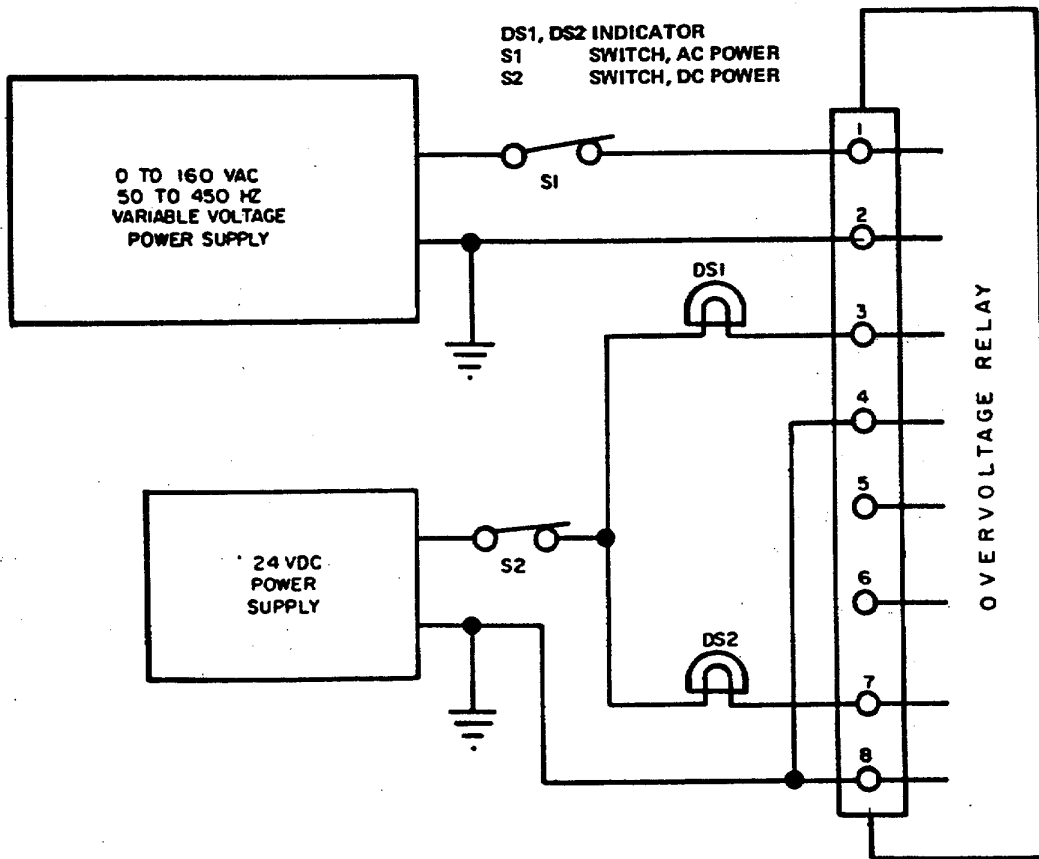

Figure 5-7. Overvoltage Relay K102, Test Setup
(1) Test. To test relay K102, connect relay as shown in test setup figure 5-7.
(b) Connect lamps DS1 and DS2, switch S2, and a 24V DC supply as shown in figure 5-7.